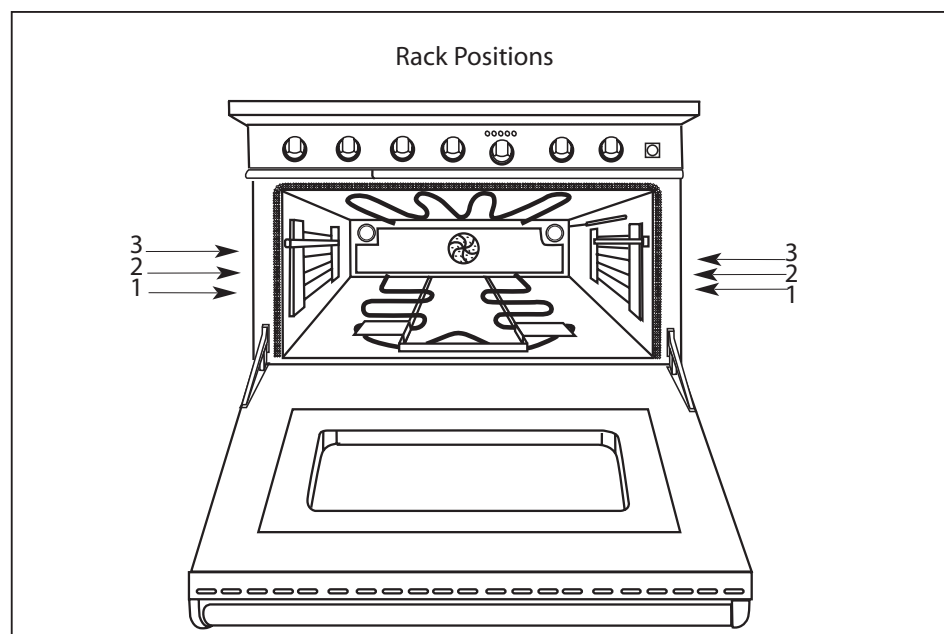

Fig. 1
2) Place the oven racks in the proper position before turning on the oven. For correct rack position check your recipe. The most frequently used position is number 2. The rack positions are numbered from the bottom as in the floors of a building. (Fig. 1)